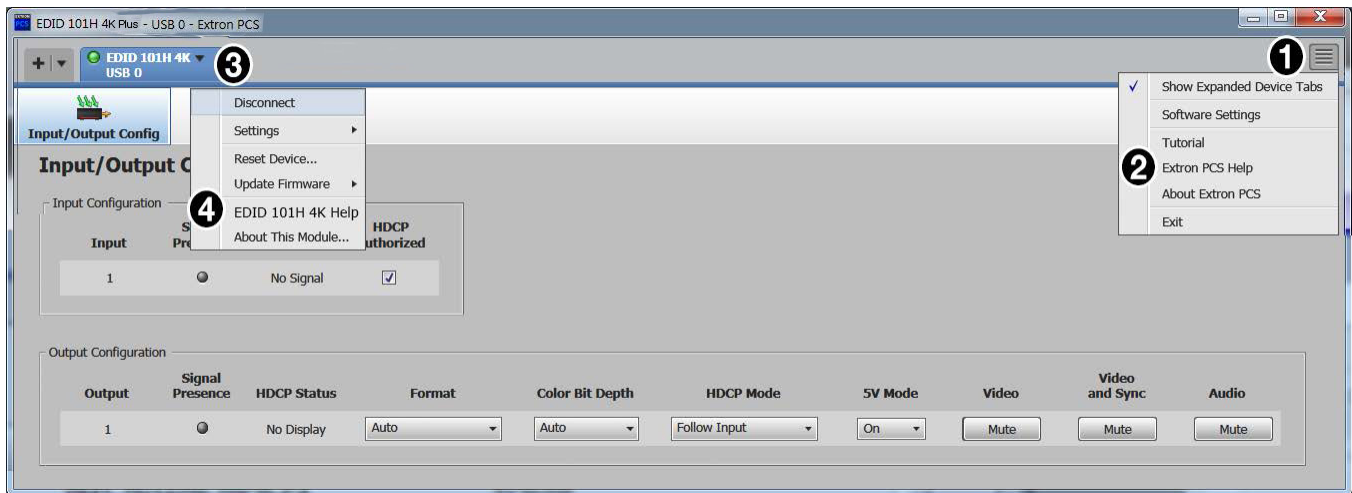

Figure 10. PCS and Device Specific Help Files
A new device configuration tab opens (see figure 10 on page 12).
1. Click the **Device Discovery** tab (①).
2. Single-click the row (③) to highlight it.
3. Click **Connect** (④). A new device configuration tab opens (see figure 10).
When the device page opens, two help files are available; one for the PCS program (see figure 10, ❷), and another for the EDID 101H 4K PLUS (❹).